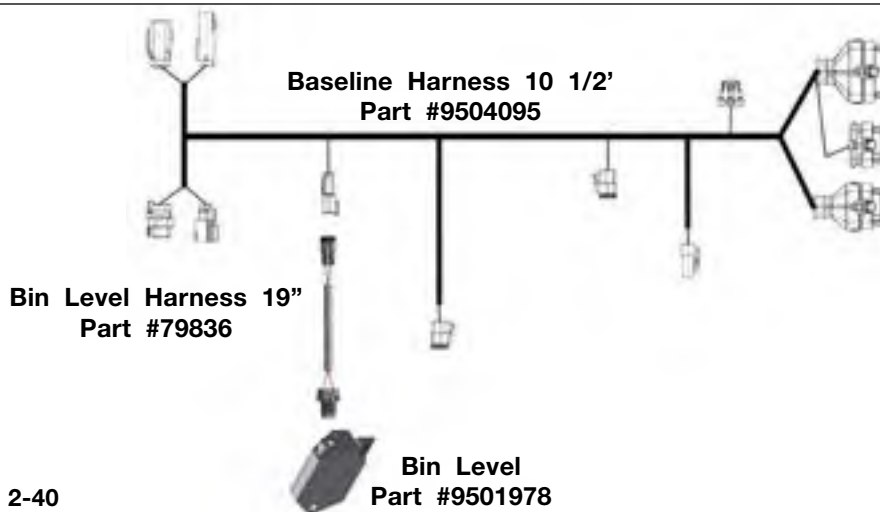

FIG. 2-40
1. Attach the bin level sensor (9501978) to the bin level harness (79836). (FIG. 2-40)